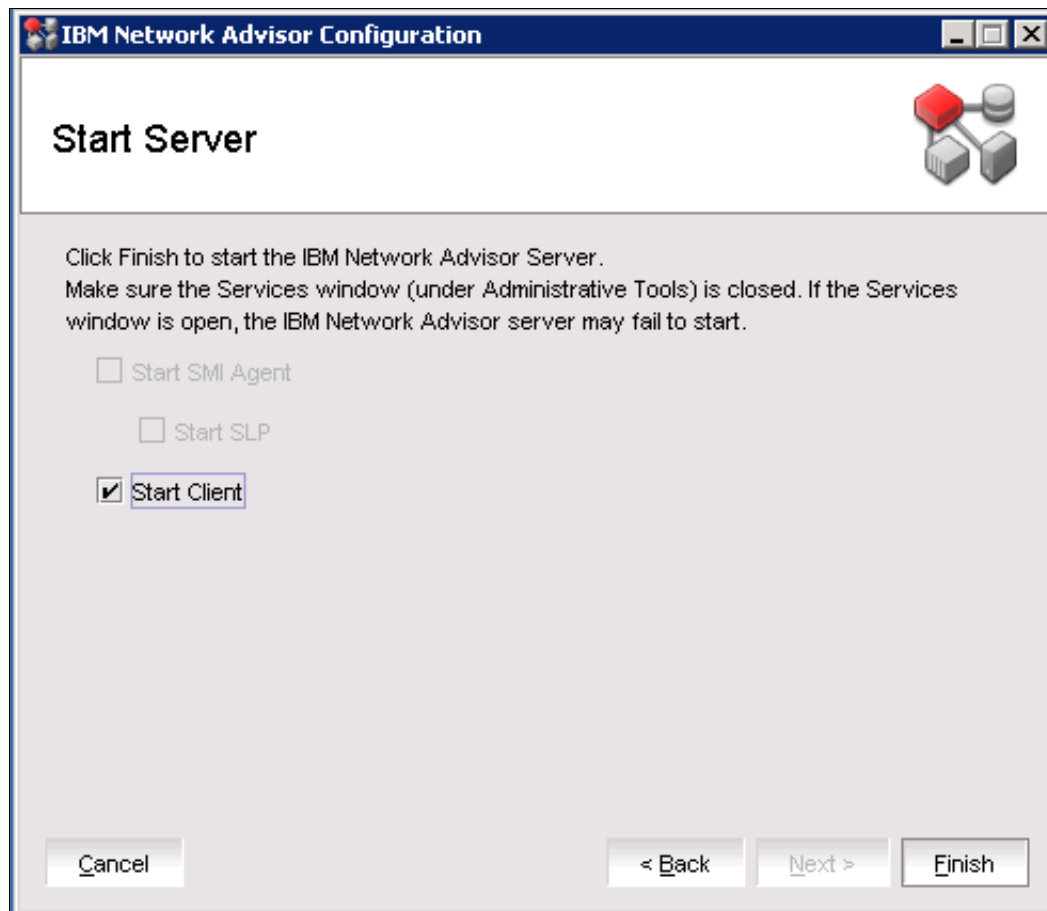

Figure 3-19 Starting the server and client
19. The Start Serve window opens and prompts you to start the server and client, as shown in Figure 3-19. You can start the client after the installation by selecting the **Start Client** check box, or you can leave it clear to start the client at a later stage.
18. The Start Serve window opens and prompts you to start the server and client, as shown in Figure 3-19 on page 91. Select the **Start Client** check box to start the Server and Client and click **Finish**.